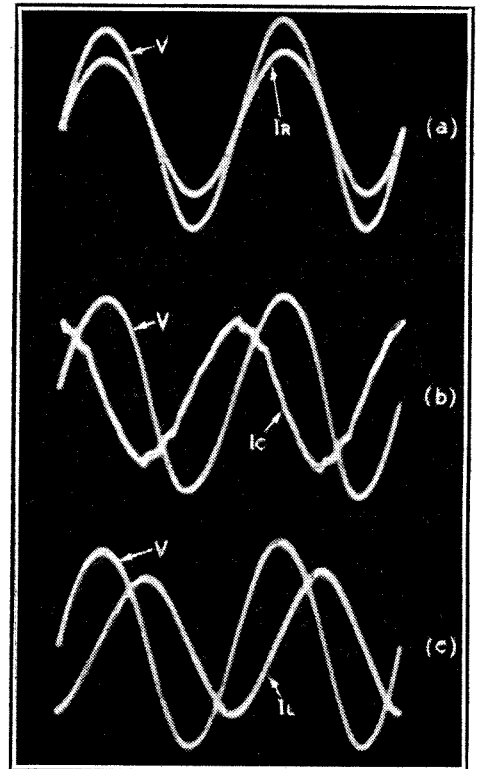

Fig. 2.—Relationships between current and voltage in simple circuits containing resistance, capacity or inductance.
We can now turn our attention to Exhibit No. 1, which is Fig. 2(a). This shows the voltage (V) and current (IR) relationship in a pure resistance. The circuit from which these curves were obtained is shown in Fig. 3(a). The oscillogram confirms what one would expect from a knowledge of Ohm's Law. The current is at all times proportional to the voltage. When there are no volts there is no
current; when the voltage reaches a maximum so does the current. On the whole, it is a rather uninteresting demonstration. The next photograph (Fig. 2(b)) shows a similar pair of curves taken with a condenser instead of a resistance (see Fig. 3(b)). The larger curve (V) represents the voltage as before, while the dented curve (IC) is a trace of the current wave form. The rather second-hand appearance of the latter has been brought about by one of those unforeseen snags that go to make life more amusing. The supply voltage has a very small high-frequency harmonic content, probably due to tooth ripple in the alternator. The impedance of a condenser is inversely proportional to frequency, and, therefore, the harmonic will pass through more easily than the relatively low-frequency fundamental. The ripple in the current curve is only a magnified version of a corresponding ripple in the voltage curve too
Exhibit No. 1, which is Fig. 2(a). This shows the voltage (V) and current (IR) relationship in a pure resistance. The circuit from which these curves were obtained is shown in Fig. 3(a). The oscillogram confirms what one would expect from a knowledge of Ohm's Law. The current is at all times proportional to the voltage. When there are no volts there is no
The next photograph (Fig. 2(b)) shows a similar pair of curves taken with a condenser instead of a resistance (see Fig. 3(b)). The larger curve (V) represents
small to be noticeable. This minor imperfection must be overlooked for the purpose of the present discussion. The major difference between Fig. 2(a) and Fig. 2(b) is that the current curve (IC) has shifted a quarter of a cycle to the left, and is, therefore, ahead of the voltage curve (V)
In Fig. 2 (b) we can observe this process of charging and discharging taking place in time with the alternations of the voltage. Consider the condition a quarter of a cycle from the left of the oscillogram, i.e., where the current is zero and the voltage is at a maximum. The voltage is changing from a rising to a falling state, and for an instant between the two conditions it is constant. The condenser at this instant maintains a steady charge, and, therefore, current flows neither in nor out. For the next half-cycle the voltage falls, first to zero, then to a negative maximum. The condenser is consequently first discharged and then charged up in the reverse direction, hence the negative loop of the current curve. The quicker the change of voltage the more rapid will be the change of charge held by the condenser. Where the voltage curve is steepest as it crosses the zero line we find the greatest discharge current; i.e., a negative maximum to the current curve.
So much space has been given to chasing the condenser current up hill and down dale that the corresponding curves obtained by substituting an inductance (Fig. 2 (c)) can have but brief mention. The current (IL) this time has shifted to the right of the voltage curve, i.e., it lags by 90°. Again, no power is dissipated because the same exchange of energy from mains to the inductance and back again occurs as with the condenser, but with one important difference. During the quarter-cycle that power is being absorbed by the condenser, power is being given out by the inductance. Where the condenser curves are both of the same sign, the inductance curves are of opposite sign. This follows, since the condenser current (IC) is a complete half-cycle out of phase with the current through the inductance (IL).
Looking at the two oscillograms of Fig. 2 (b) and (c), the current curves are the inverse of each other. Tip the condenser current curve upside down, and it gives the current curve obtained from the inductance. This is very interesting because it looks as though the two currents would cancel each other if drawn from the same source of supply.